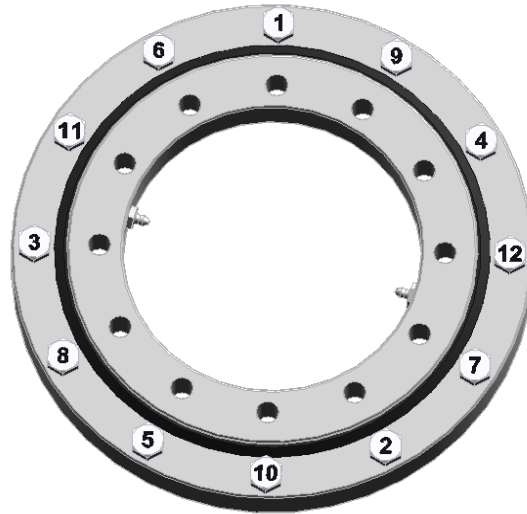

Figure 1. Bolt Torque Sequence
- Thread the bolts and washers, if required, into the slew bearing, hand tightening each bolt. Tighten one ring at a time. You can start with the inner ring or outer ring but you must follow the tightening procedure until the full tightening torque has been reached before moving to the next ring. The bolts should be tightened in a crosswise pattern as shown in Figure 1. Follow the crosswise pattern tightening each bolt to 30% of the tightening torque. Then repeat crosswise torque pattern tightening each bolt to 50% of tightening torque. Finally repeat the crosswise pattern tightening each bolt to 100% of the tightening torque. Proceed to the other ring and repeat the bolt torque sequence.